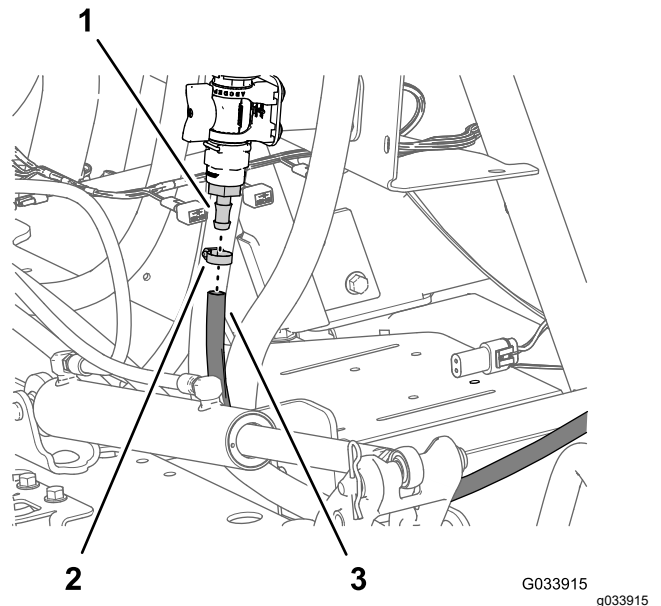

Figure 20
6. Assemble the spray-wand hose onto the barbed-hose fitting of the control valve, and secure the hose to the fitting with a hose clamp (Figure 20).